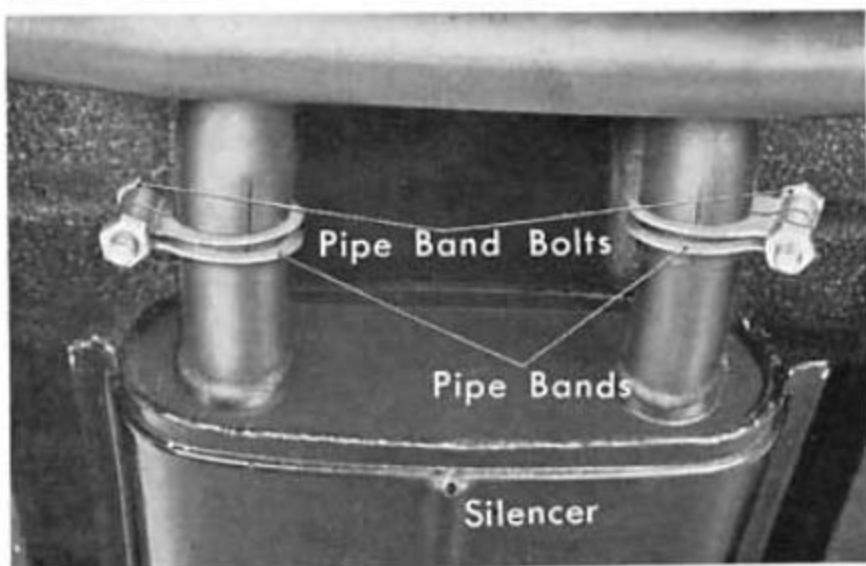

Fig. 1E-16
13. Remove the engine oil drain plug and drain the oil (Fig. 1E-13).